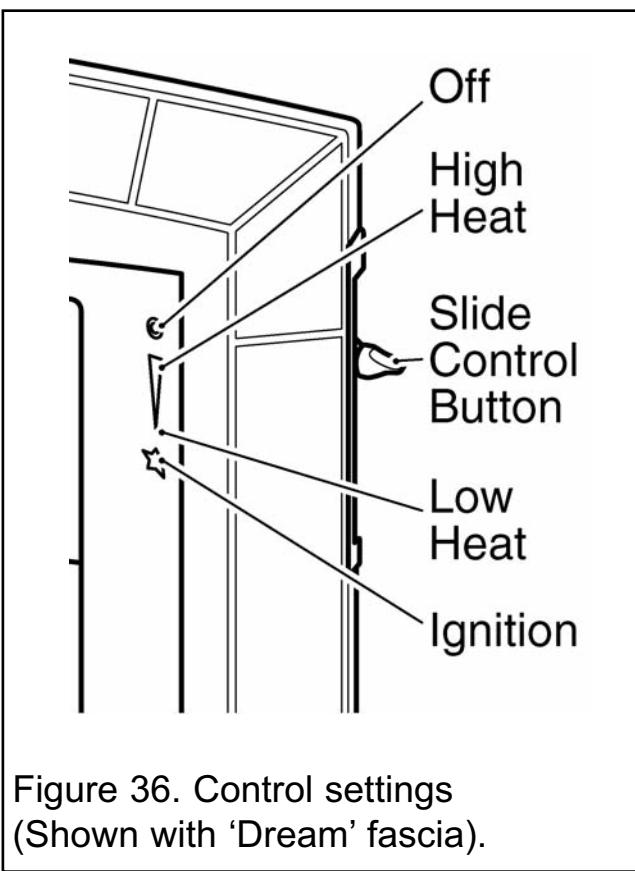

Figure 36. Control settings
The control position markings on the fascia are shown in figure 36.
5. Gradually slide the button up to increase the burner setting. The burner should be at its maximum setting at the high heat position shown in figure 36. You should feel a check to the button movement at this position.